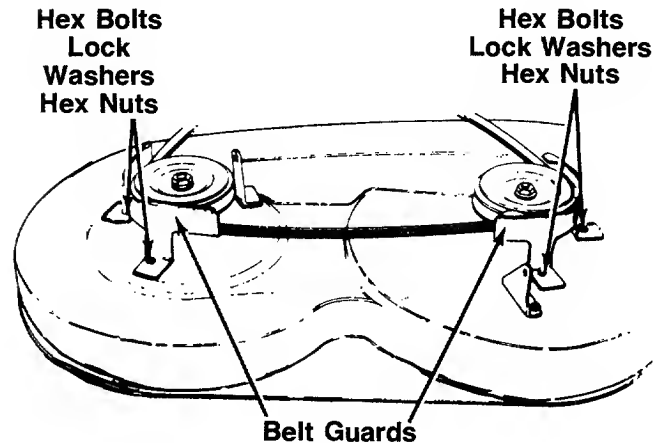

FIGURE 21.
7. Remove the belt guards at each deck pulley by removing the hex bolts, lock washers and hex nuts. See figure 21.